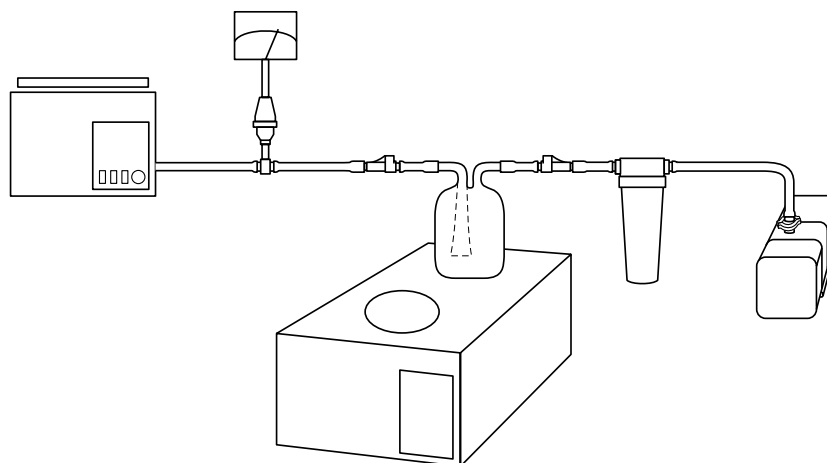

Fig. 2
- . the quick couplings are made of polypropylene and the female body has a valve which seals the vacuum when couplings are disconnected (fig. 2).